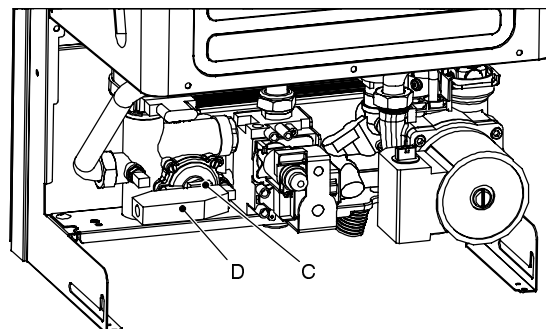

Fig. 60
- 2 Remove the fork C (Fig. 60).
- 2 Remove the fork C that holds the micro-switch housing D (Fig. 60).